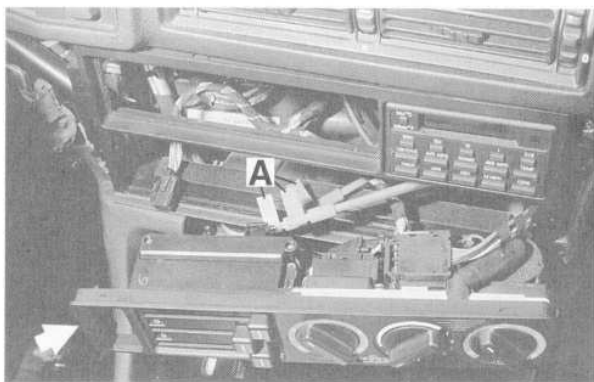

Fig. 14. Distribution control panel retaining tab (arrow). Bowden cable retaining clips at (A) on cars with IHKR.
- Cars with IHKR: To remove bowden cables, press together retaining tab and lift out cable end from operating lever. See Fig. 14.